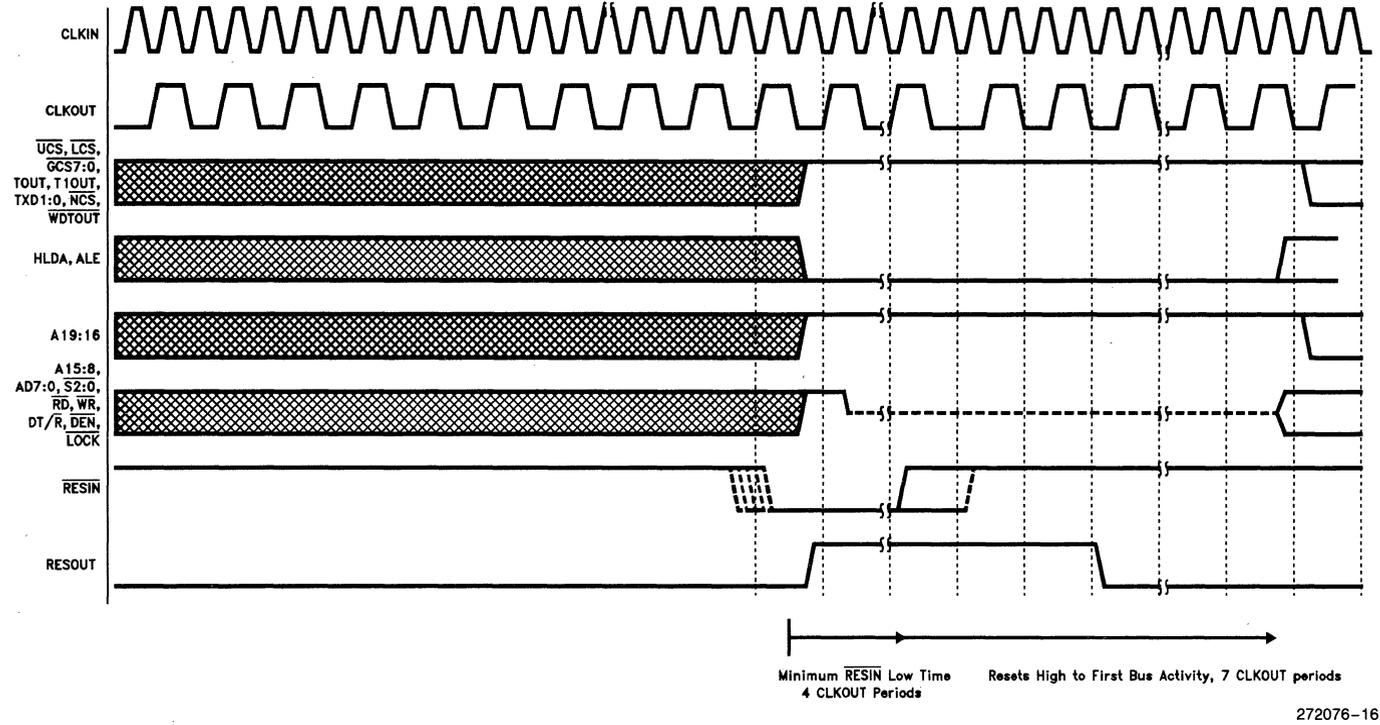

Figure 16. Warm Reset Waveforms
4. Specified for a 50 pF load, see Figure 16 for capacitive derating information.
Figure 16 shows the timing sequence when $\overline{\text{RESIN}}$ is applied after V_{CC} is stable and the device has been operating. Note that a reset will terminate all activity and return the 80C188EC to a known operating state. Any bus operation that is in progress at the time $\overline{\text{RESIN}}$ is asserted will terminate immediately (note that most control signals will be driven to their inactive state first before floating).